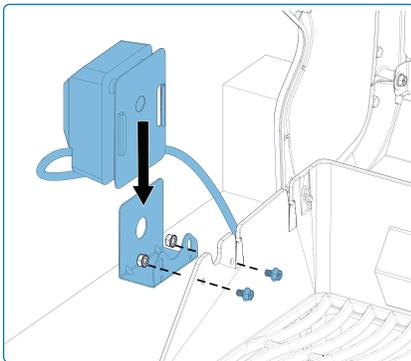

Fig. 3
1. Install the rotisserie motor on the side of the grill using the mounting bracket(s). Some models have pre-mounted bracket (**Fig. 3**).
2. Once the bracket has been fastened to the grill, slide the rotisserie motor onto the bracket (**Fig. 3**).